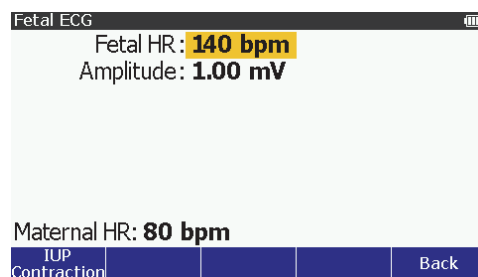

Figure 12. Fetal ECG Screen
2. Push , , , or  to highlight **Fetal Simulation** and then push  to show the Fetal ECG screen on the display. See Figure 12.